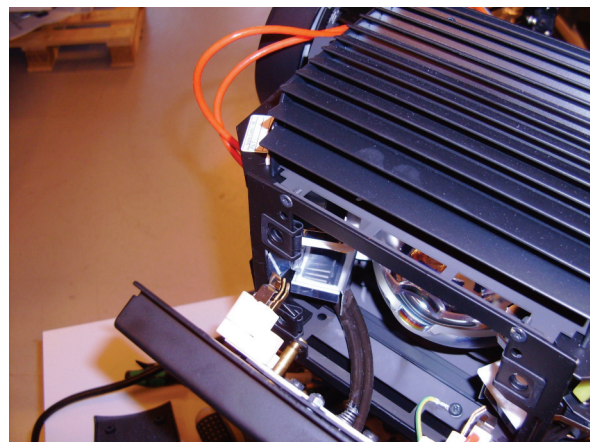

Figure 59
64. See Figure 59. Pull the lamp leads back through the fixture towards the ignitor leaving only enough slack as is necessary to open the rear lamp housing cover.